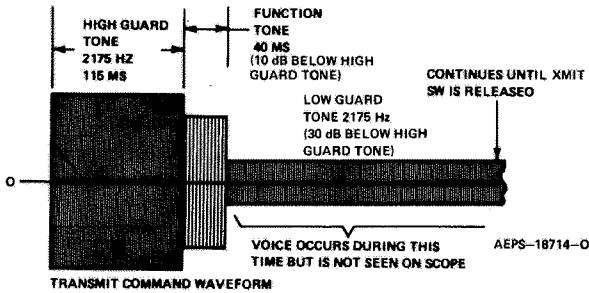

Figure 1. Dynamic Test Waveform
Step 2. Momentarily actuate the XMIT switch. Waveform shown in Figure 1 should be present.